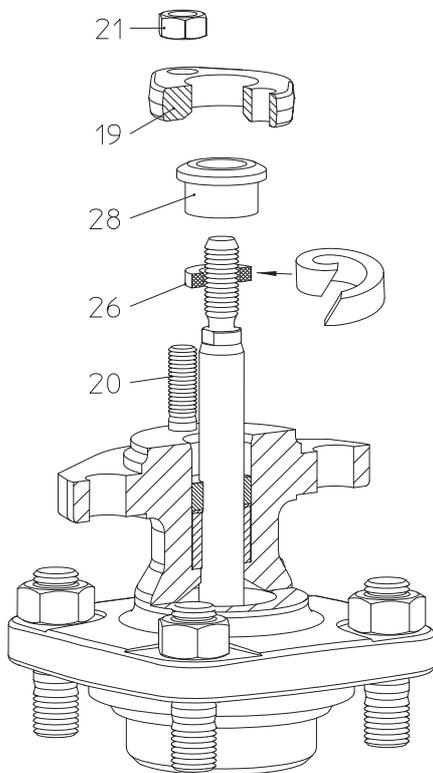
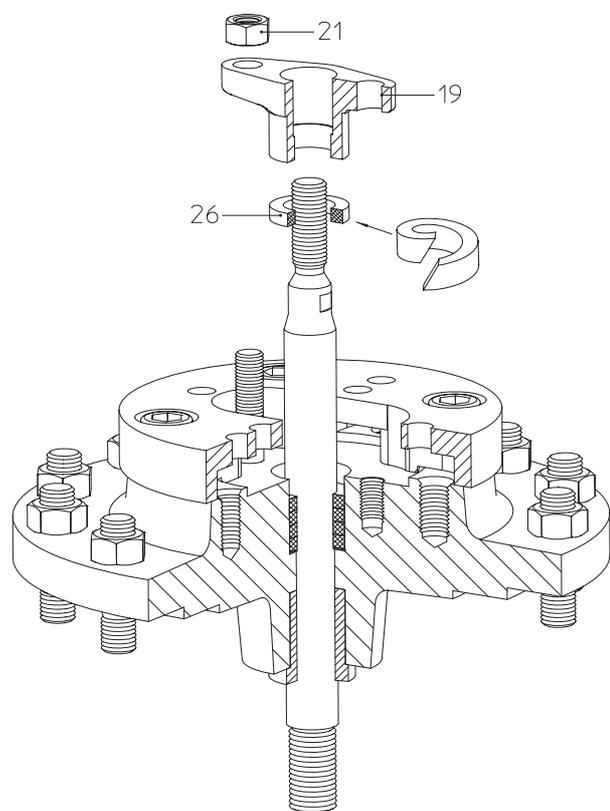

Fig. 11: Stuffing box packing DN15-150
Fig. 12: Stuffing box packing DN125v-150v
*Refer to item 10.0 and 11.0 before dismantling the valve.*
- Insert the new packing ring (pos. 26) as shown in Fig. 11 and Fig. 12.